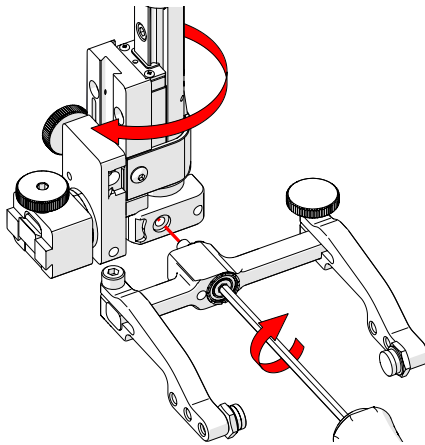

Fig. 132 - Screw yoke to opposite side
6. Mount the yoke to the opposite side of the base using the supplied 3 mm hex driver (Fig. 132).